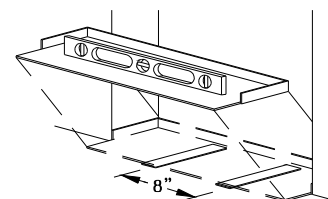

Figure 11:
- Place sillpan into the opening and determine leveling (Figure 11) that must be done prior to installation.